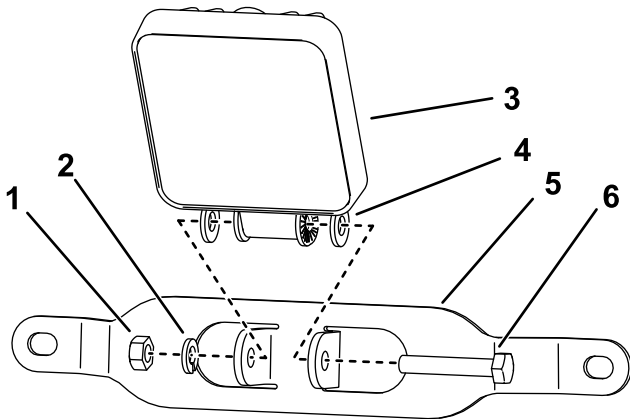

Figure 3
- Assemble the work lights as shown in Figure 3.